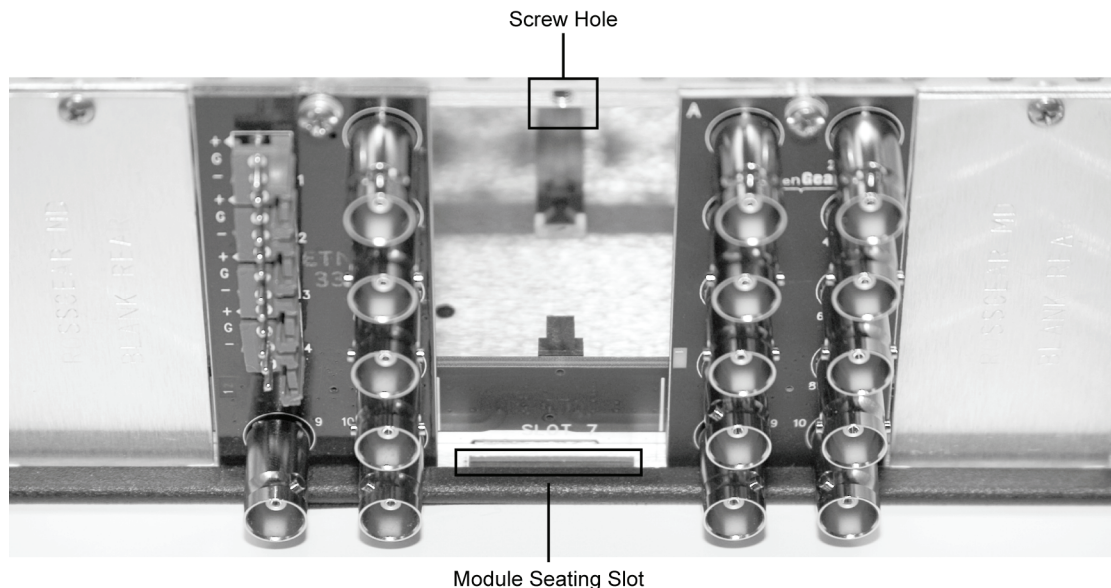

Figure 2. Rear Module Installation in a DFR-8310 Series Frame (ADC-8733A not shown)
4. As shown in **Figure 2**, seat the bottom of the rear module in the seating slot at the base of the frame's back plane.